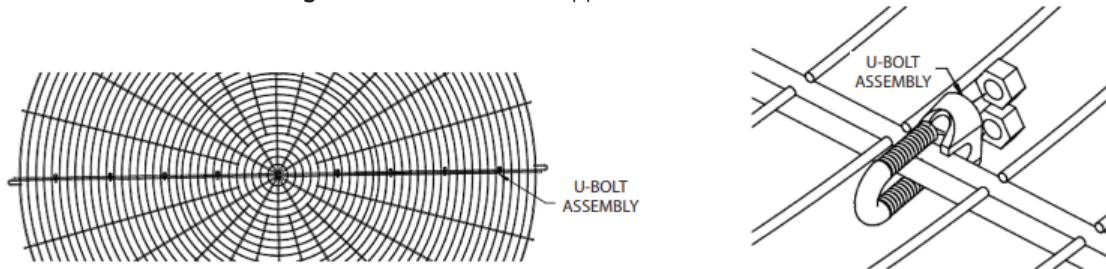

Figure 25 — U-Bolt Assembly Spacing & Arrangement
3. Join the two screen halves with "U" bolts, as shown in Figure 25.